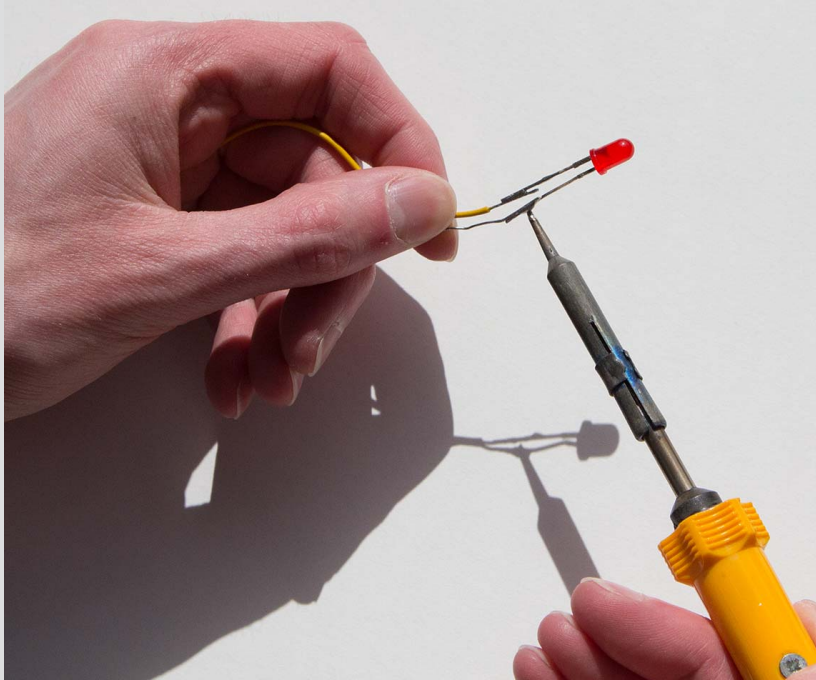

FIGURE 9-12:
- Solder (shown in Figure 9-12) – this is the most permanent way of making connections. *Solder* is a mixture of metals and is heated with a soldering iron until it melts and joins the connectors together. It's also possible to re-melt solder to separate connectors, although this is not always easy without damaging the components. Solder will also only join certain types of metals – for example, it won't stick to aluminium. Soldering can be a bit tricky at first; it takes a bit of practise to apply just the right amount of heat in the right place to avoid melting insulation, damaging sensitive components or burning your fingers! It's best to practise to join some scrap components and wire as your first few attempts might be unsuccessful.